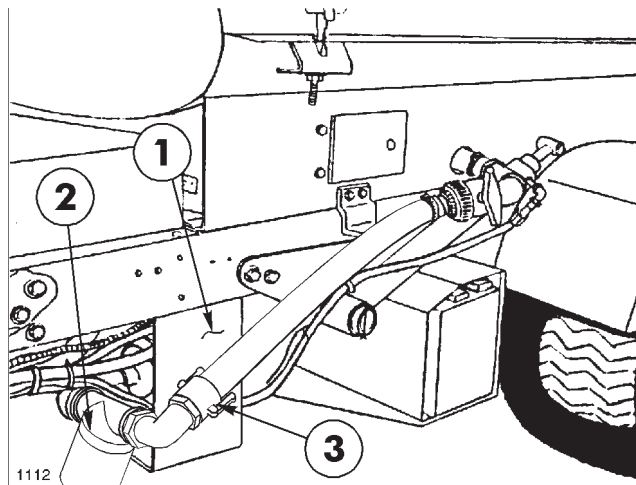

FIG. 4
7. Attach the Pump Mount Bracket assembly to the left side of the vehicle frame using the (3) 5/16" x 1" hex hd. cap screws, lockwashers, and hex nuts (Fig. 4). Insert the 3/8" x 1-1/2" hex hd. cap screw through the Rubber Mount and attach to the vehicle frame member using the 3/8" I.D. 10 GA. flat washer, and locknut (FIG. 2). Tighten all fasteners securely.
10. Apply thread sealer and install 1-1/4" close nipple, Suction Strainer, 90° st. elbow, reducing nipple and Quick Adapter into the suction side of the Pump (FIG. 4).